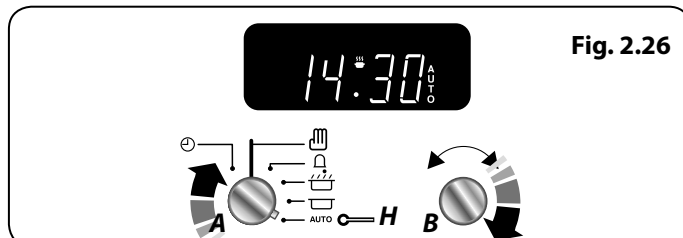

Fig. 2.26
3. Continue to turn the **Adjusting (B)** knob to the amount of time required e.g. 1 minute. The display will show the current time plus the required length of time you have set (**Fig. 2.26**).
4. Turn the **Timer (A)** knob to the **Auto (H)** setting. The display will show the current time, the Cooking symbol and the word 'AUTO' (**Fig. 2.26**).